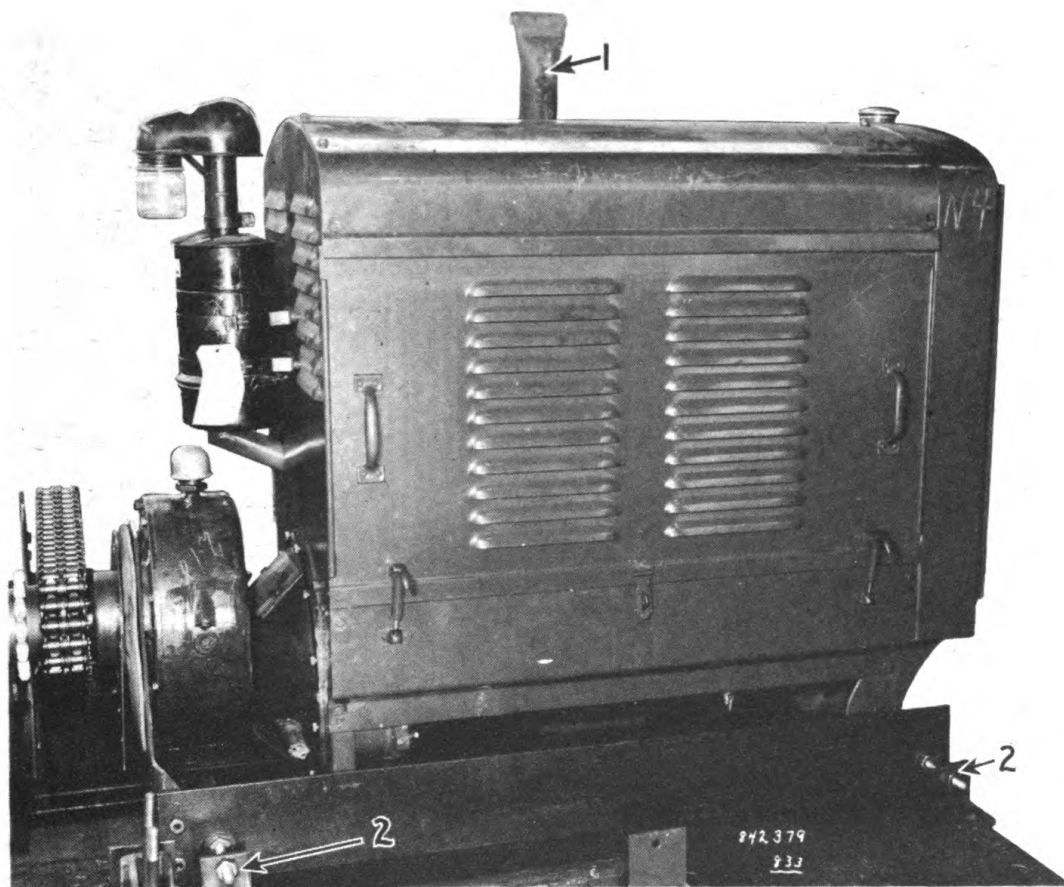

FIGURE 103
3. Remove exhaust pipe (1) (Fig. 103) that extends through top of engine housing.
4. Remove both adjusting bolts (2).